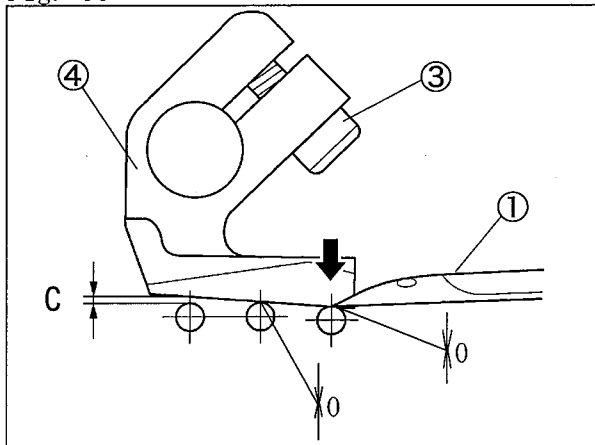

Fig. 57
- (1) When the looper ① moves from the right to the left, and the looper ① tip meets the right needle, the needle guard(rear) ⑤ pushes the right needle so that the clearance between the right needle and the looper ① is 0. (Fig. 57)
- (2) When the looper ① tip meets the middle needle, adjust the angle of the needle guard(rear) ④ so that the clearance between the middle needle and the looper ① is 0. (Fig. 57)